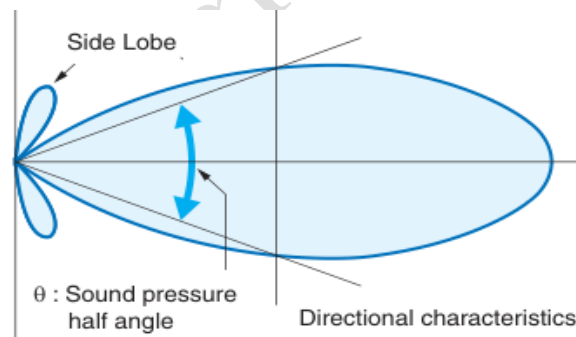

Fig.30 Directional characteristics.
- d. Directional characteristics (Fig.30): The ratio of the sound output (needed to transmit the specified sound energy to the target object) of the non-directivity emitter to the sound output of the directivity emitter is called the directivity gain. As the frequency and vibration area increase, the directivity grows sharper and sound waves are emitted with greater efficiency. The directivity of a sensor unit used as an ultrasound switch is 8° to 30° (sound pressure half-angle). The directivity is also strongly affected by the shape of the sensor horn and the vibration mode of the transducer, and thus the sensor unit shape, operation frequency, and transducer type are selected to provide the desired operation range.